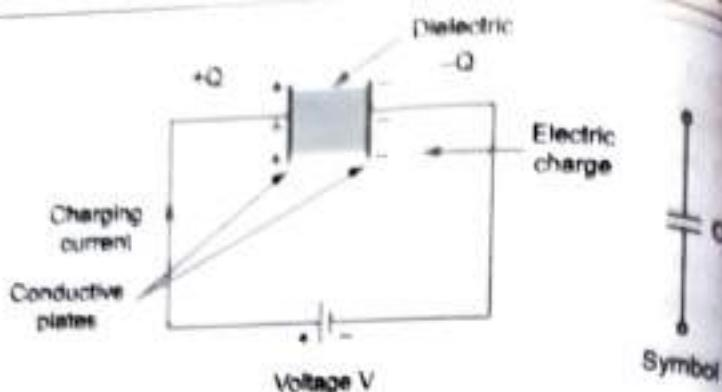

Fig. 1.3
- When a voltage source is connected across the plates, a momentary charging current deposits charge on the plates which establishes an electric field. This is shown in the Fig. 1.3.